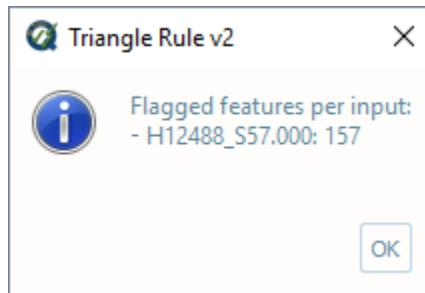

Fig. 2.79: Triangle rule's output message.
- After executing, the output window opens automatically, and the results are shown by textbox (Fig. 2.79).